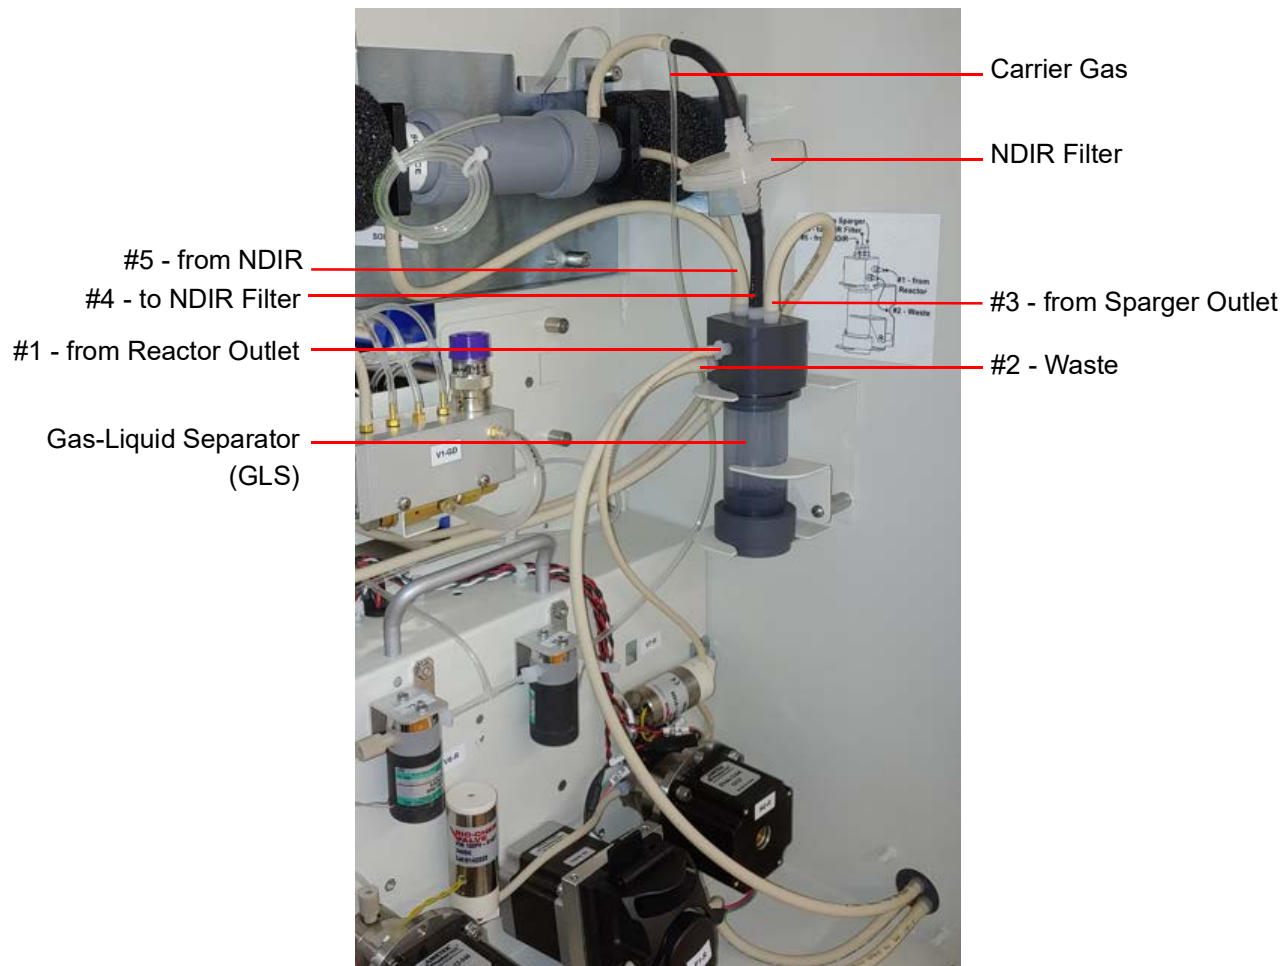
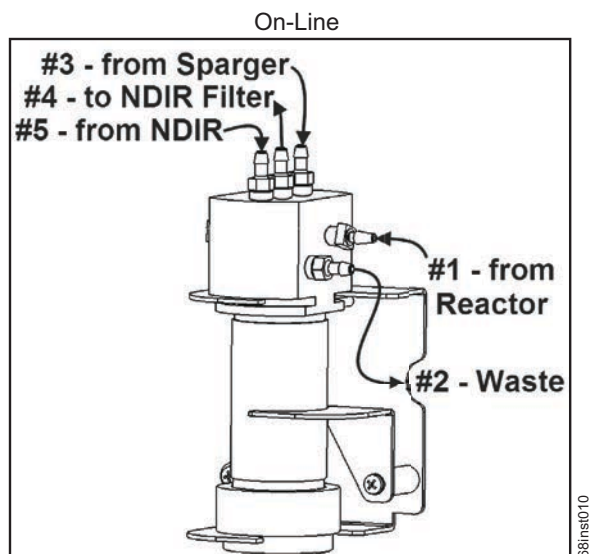

Figure 6: The Gas-Liquid Separator
Figure 7: Gas-Liquid Separator (GLS), Label
2. Locate the Gas-Liquid Separator. See Figure 6: The Gas-Liquid Separator on page 74.
9. Reconnect the tubing to the correct barbs. See Figure 6 on page 74 and Figure 7 on page 74.